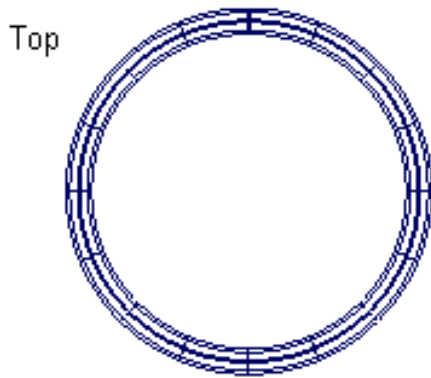

Figure 3-68 Base feature
3. Enter **0** in the promptline; the base feature is created, as shown in Figure 3-68.